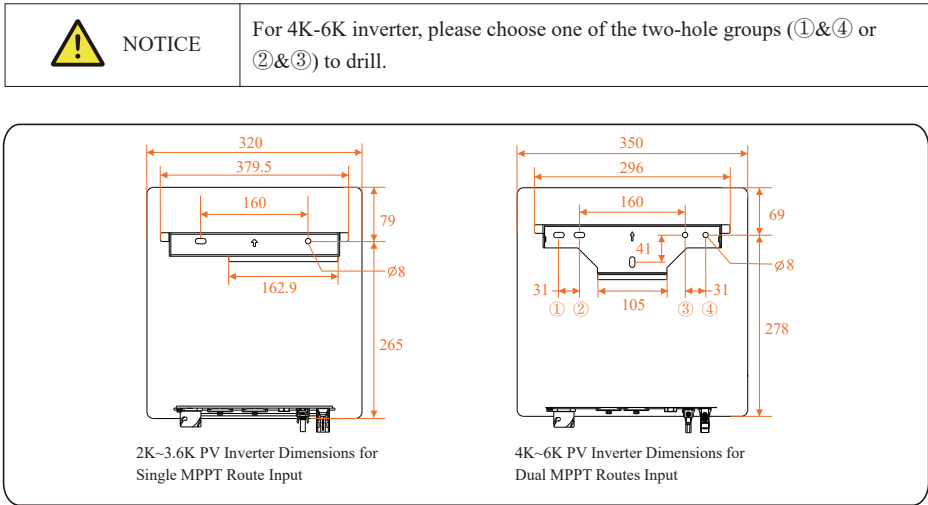

Figure 4.9 Determine the positions for drilling holes (unit: mm)
Step 2 Determine the positions of rear panel to drill holes (as shown in Figure 4.9).